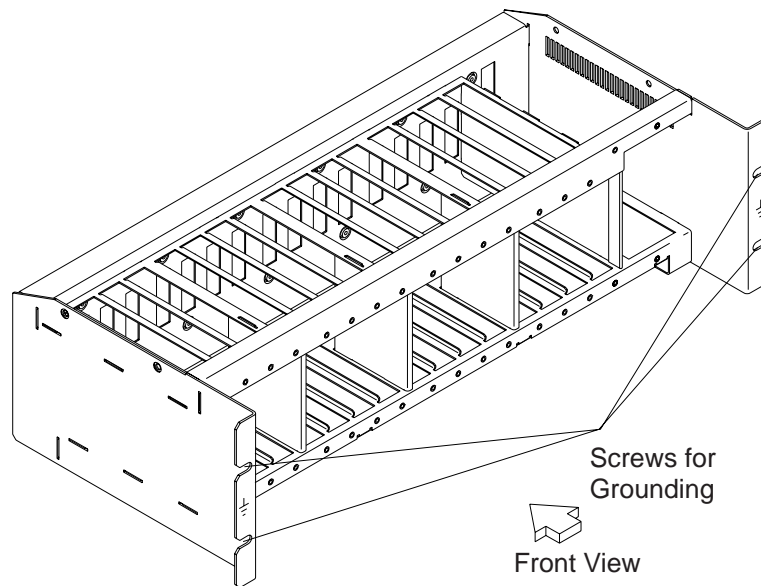

Figure 0-6. LCB Grounding Via Screws
- Check that electrical continuity is assured between the LCB housing and the controller expansion frame, if LCBs are present. This operation must be performed before any network connection (see Figure 0-6 on page xxviii).